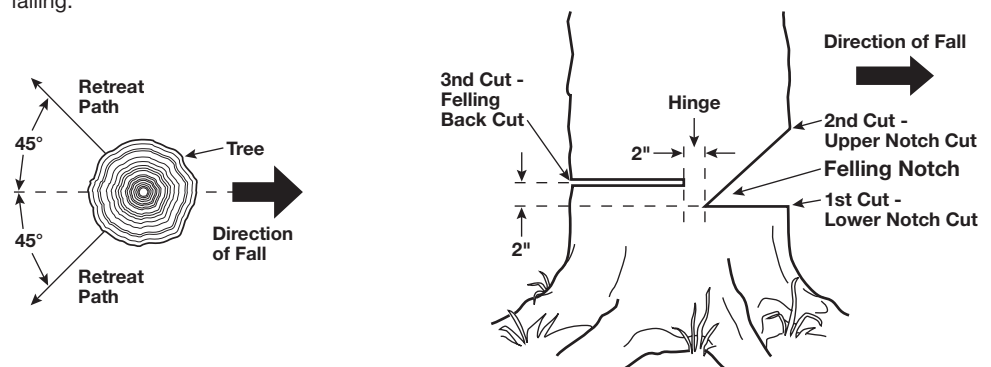

Fig. 9 Retreat Path from Falling Tree (left) Fig. 10 Cutting Sequence for Felling a Tree (right)
3. Before felling the tree it is advisable to plan and clear a retreat path. Make the retreat path in the opposite direction of tree fall and at a 45° angle (Fig. 9).
1. Hold the chain saw so that the guide bar is horizontal and cut the lower notch as low to the ground as possible. Make this cut 1/3 the diameter of the tree trunk (Fig. 9).